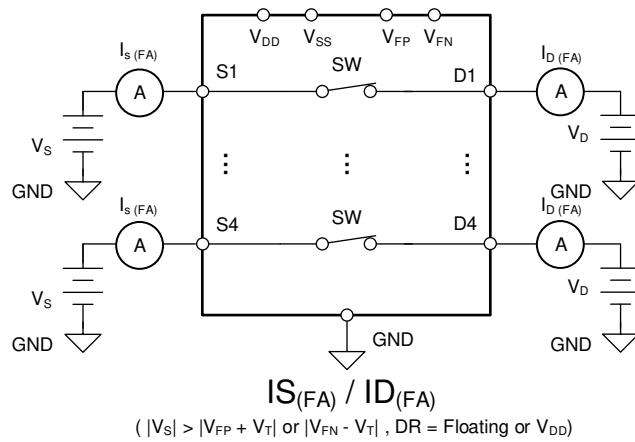
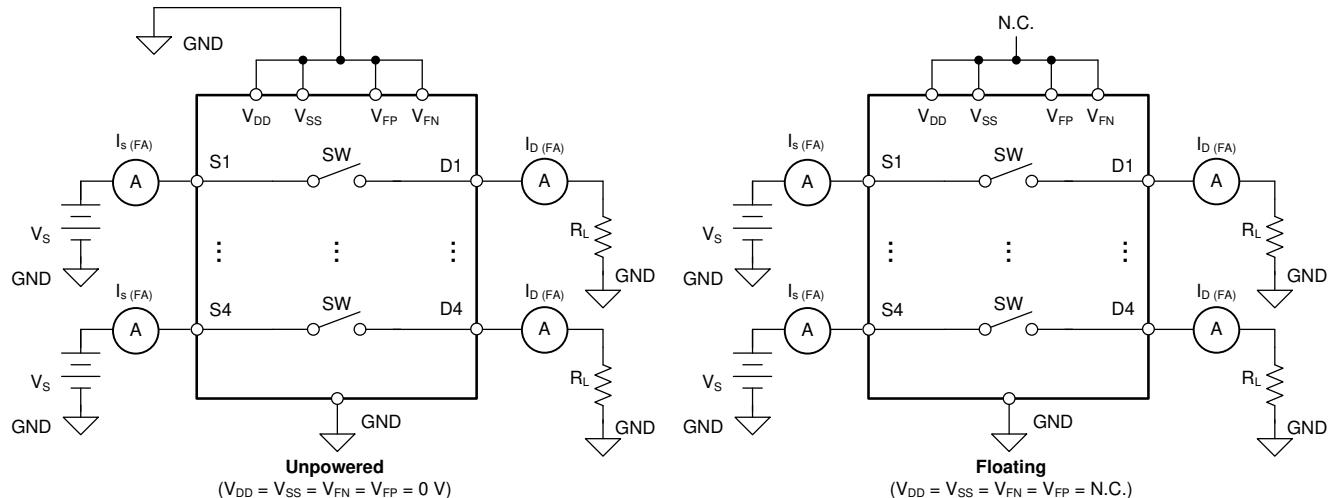

图 7-3. Measurement Setup for Input and Output Leakage Current Under Overvoltage Fault with Normal Supplies
图 7-4. Measurement Setup for Input and Output Leakage Current Under Overvoltage Fault with Unpowered or Floating Supplies
If any of the source pin voltage goes above the fault supplies (V_{FP} or V_{FN}) by one threshold voltage (V_T), the TMUX7462F's overvoltage protection feature is triggered to turn off the switch under fault, keeping the fault channel in the high-impedance state. $I_{S(FA)}$ and $I_{D(FA)}$ denotes the input and output leakage current under overvoltage fault conditions, respectively. The supply (or supplies) can either be in normal operating condition (图 7-3) or abnormal operating condition (图 7-4) when the overvoltage fault occurs. The supply (or supplies) can either be unpowered ($V_{DD} = V_{SS} = V_{FN} = V_{FP} = 0$ V), floating ($V_{DD} = V_{SS} = V_{FN} = V_{FP}$ = No Connection), or at any level that is below the undervoltage (UV) threshold during abnormal operating conditions.